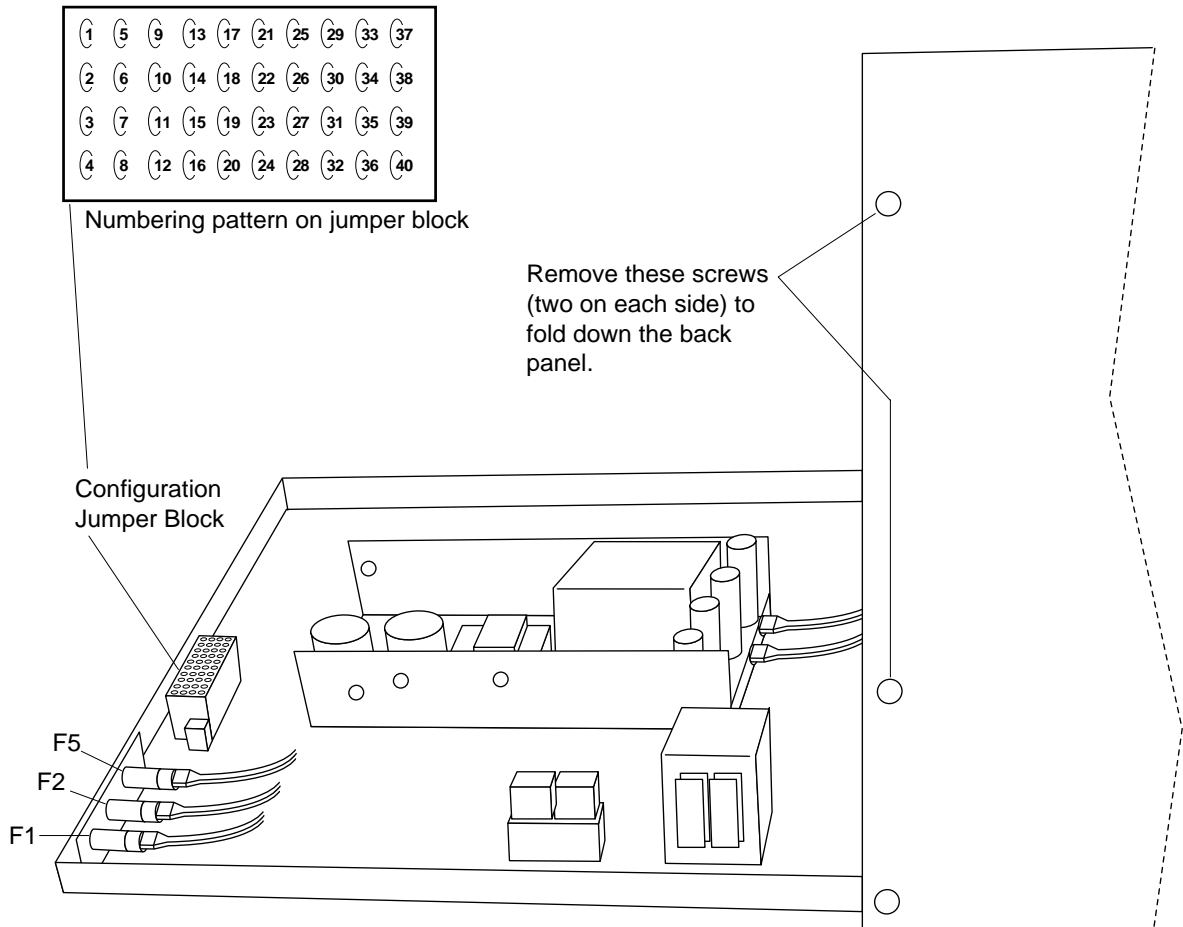

Figure 4-2. Adept MV Controller with Back Panel Open
3. Open and fold down the back section of the controller by removing the upper two screws on each side of the back edge of the chassis (see Figure 4-2). When the screws are removed you can fold the back section down to make it easier to access the configuration block, which is located inside the back of the controller near the top.